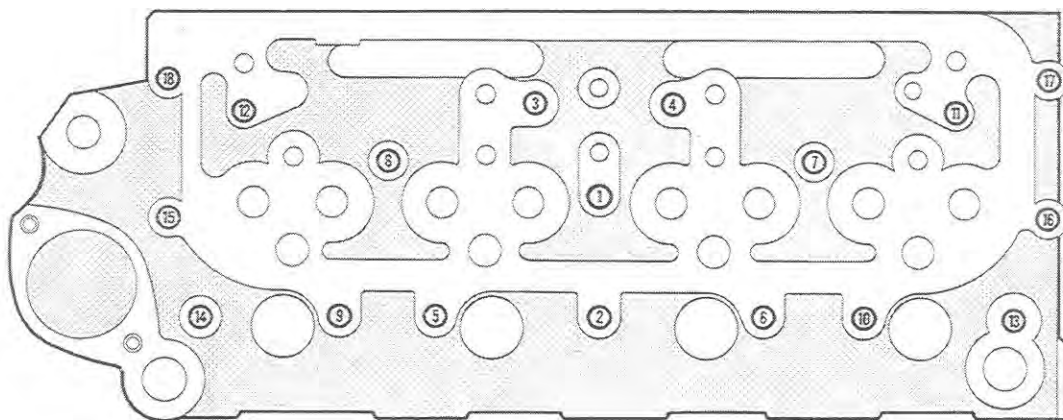

Fig. 8
- 4) Fit the 18 holding nuts (the nuts Nos 14, 9, 5, 6, 10 are special nuts) Tighten the nuts lightly to a torque of 14 to 22 ft/lb (2 to 3 m/kg) and in the order shown in Fig. 8.